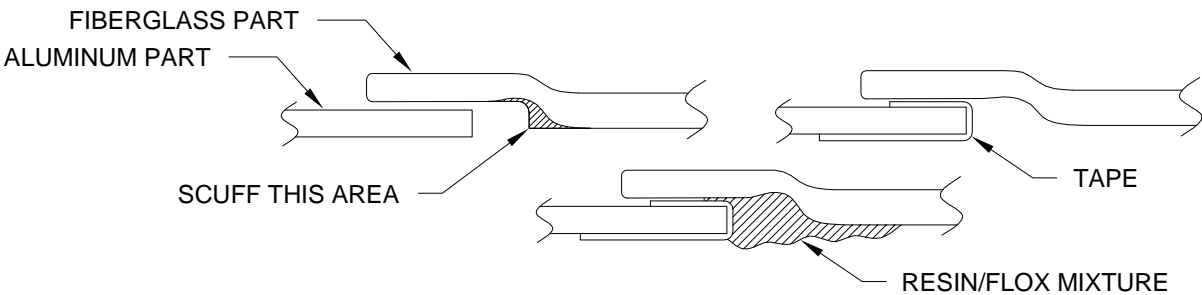

FIGURE 2: RESIN APPLICATION
Step 3: Wrap electrical tape or equivalent around the inside surface of the metal part. See Figure 2. Insert and secure the fiberglass tip with either screws or clecos as appropriate, then finish wrapping the tape snugly around the edge of the metal. The tape will act as a release agent for the next step.